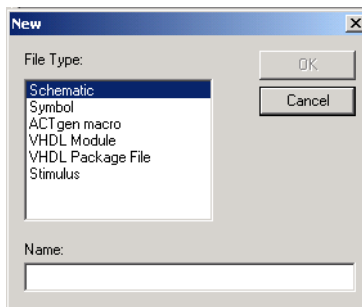

Figure 5-4. New Dialog Box
2. **From the File menu, click *New*.** This displays the New dialog box, as shown in Figure 5-4.